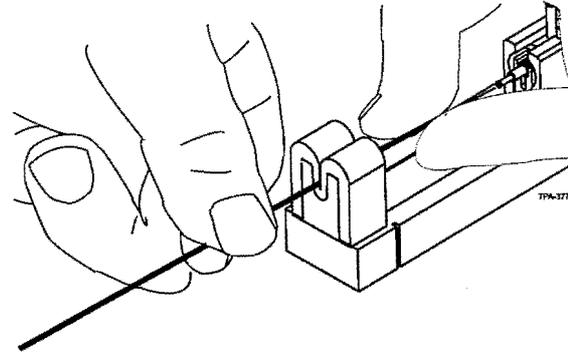

Figure 10 — Push Fiber into Clamps
Step 1: Holding the cleaved fiber by its coating, push the first fiber down into the clamps (Figure 10). Slide the fiber into the CamSplice splicer until it stops. To ease the fiber's entry into the CamSplice, the fiber can be slightly twisted or "rolled" during insertion. *There should be no bend in the first fiber at this point.*